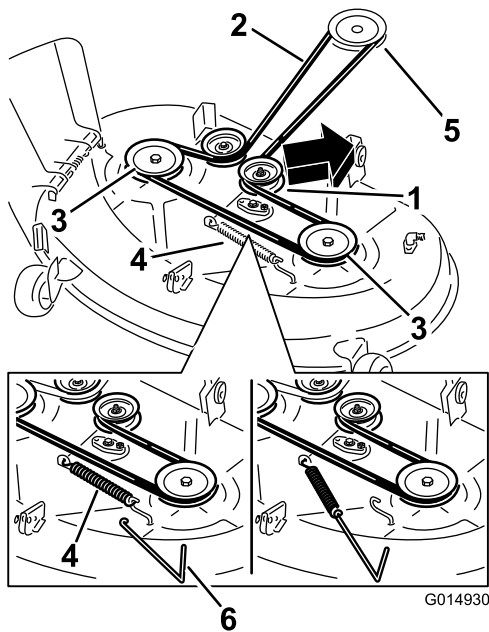
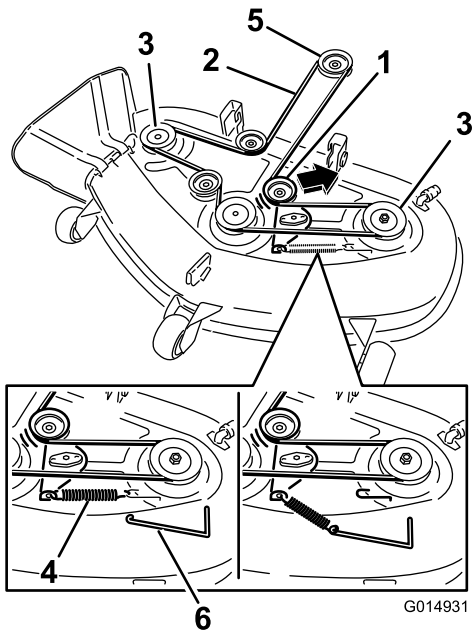

Figure 72
Figure 73
6. Using a spring-removal tool, (Toro Part No. 92-5771), remove the idler spring from the deck hook to remove tension on the idler pulley, and roll the belt off of the pulleys (Figure 72 and Figure 73).
7. Route the new belt around the engine pulley and mower pulleys (Figure 73).
8. Using a spring-removal tool, install the idler spring over the deck hook, and place tension on the idler pulley and mower belt (Figure 72 and Figure 73).